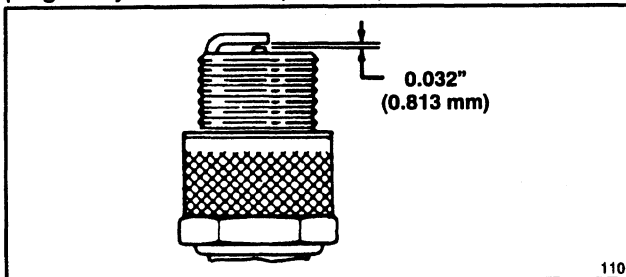

Figure 14
3. Set air gap at 0.8 mm (0.032") (Fig. 14). Install correctly gapped spark plug and gasket seal. Tighten plug firmly to 13.6 N·m (10 ft-lb).